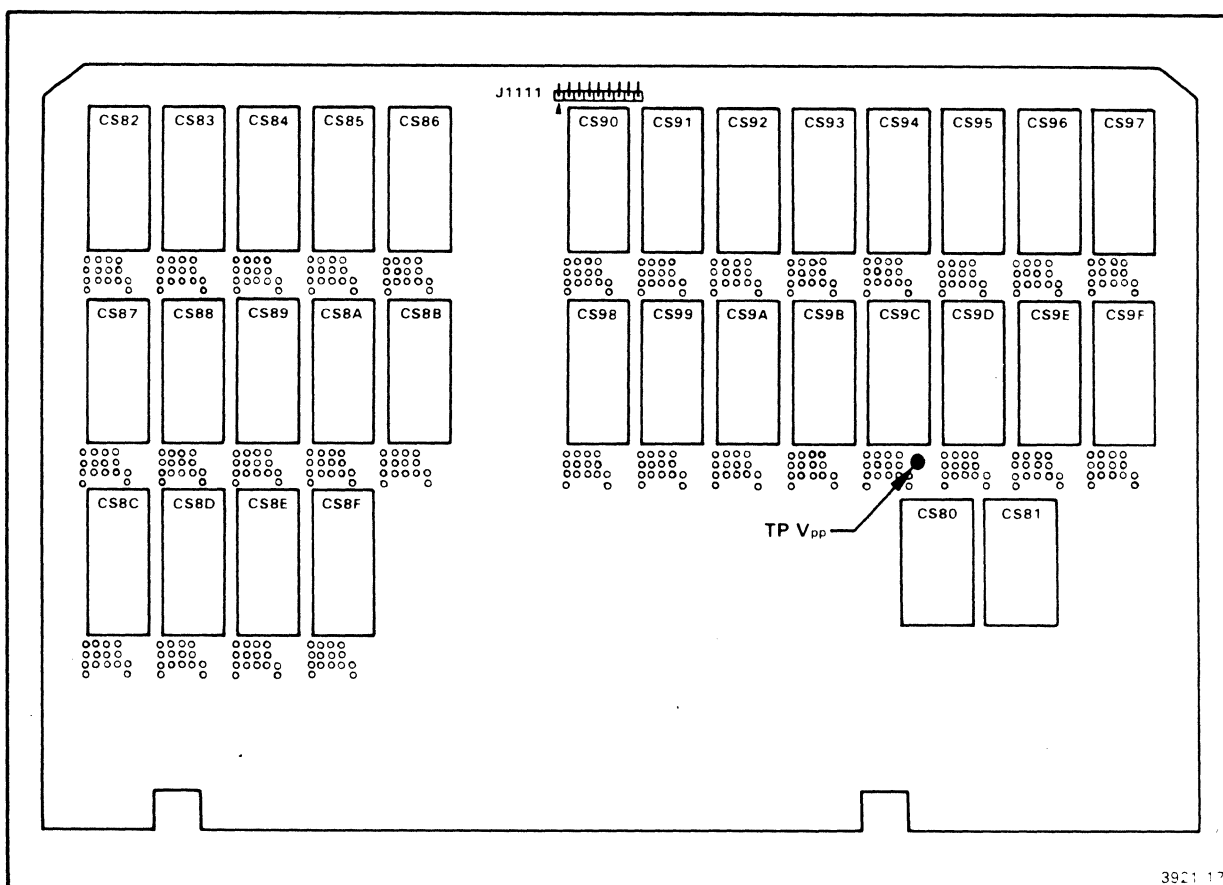

Fig. 2-9. System ROM Board socket locations.
- The Emulator Option ROM should be installed in the sockets labeled CS82 through CS8B as shown in Fig. 2-9 (circuit numbers U1010 through U1070 and U3010 through U3070 on the System ROM Board).
- Install the PROM Programmer Option ROM in locations CS90 and CS91 as shown in Fig. 2-9 (circuit numbers U1110 and U1120 on the System ROM Board).
- The Communications Option (COMM Option) ROM should be installed in location CS8F as shown in Fig. 2-9 (circuit number U4060 on the System ROM Board).
- Install the Trigger Trace Analyzer Option ROM in locations CS8E, CS8D and CS8C as shown in Fig. 2-9 (circuit numbers U4050, U4030 and U4010 on the System ROM Board).
Figure 2-9 shows the locations and the assigned labels for the 32 ROM sockets on the System ROM Board.